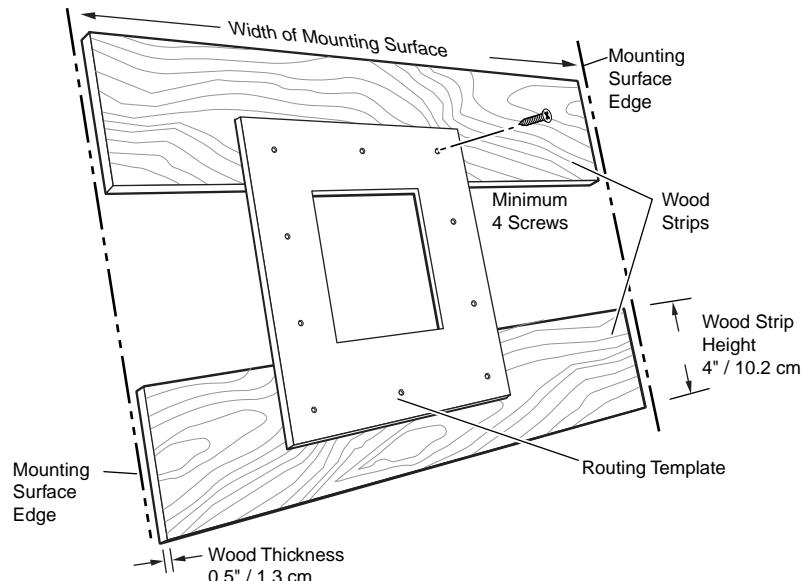

Figure 2-1 — Prepared mounting template
- 1**. Cut two 1/2" x 4" (approximately 13 mm x 102 mm) strips of soft, finished lumber at least long enough to span the distance between the desired installation location on the table or other mounting surface and the edges of the mounting surface (figure 2-1).